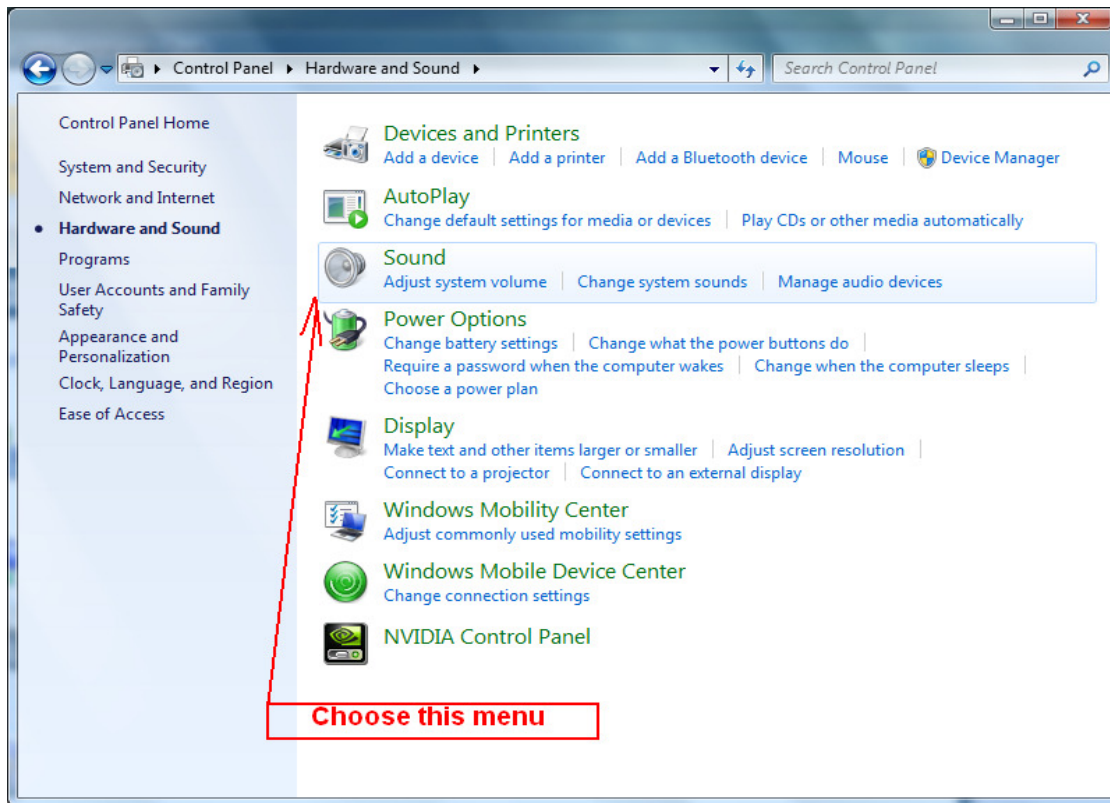

Figure 14 "Control Panel" -> "Hardware and Sound" window
- In “Hardware and Sound” choose menu “Sound” (see **Figure 14**.)